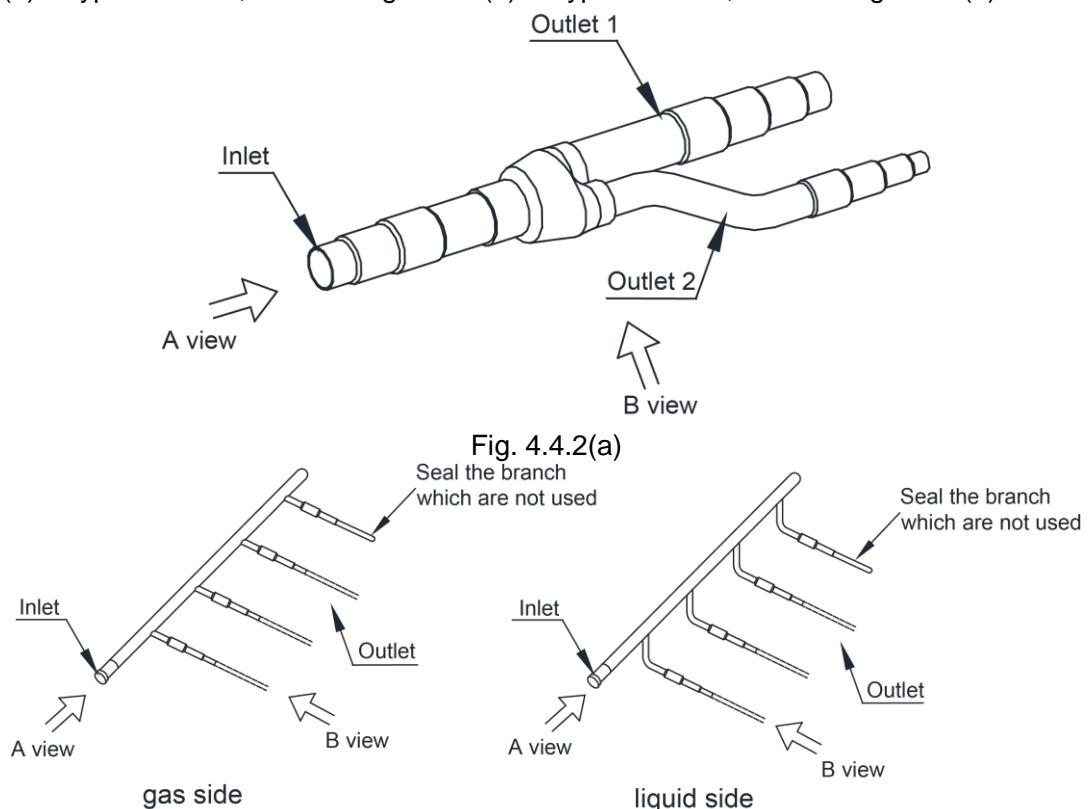

Fig. 4.4.2(b)
(1) Y-type manifold, See the Fig. 4.4.2 (a). T-type manifold, See the Fig. 4.4.2(b).